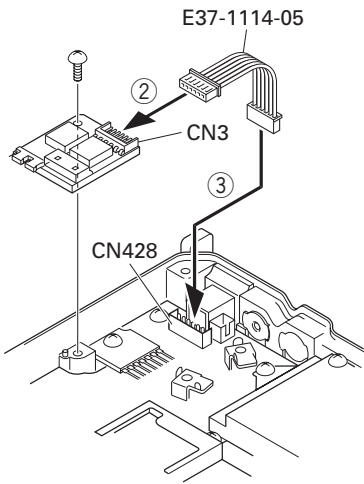

Fig. 2-2
3. Remove the 6-pin jumper connector inserted in the TX-RX unit (B/3) connector (CN428). (①)
4. Insert one side of the lead wire with connector (E37-1114-05) into the relay unit connector (CN3) (②) and the other side into the TX-RX unit (B/3) connector (CN428) (③).
5. Place the relay unit at the position shown in Figure 2-2 and secure it to the chassis with a screw.
6. Remove the cap on the rear of the chassis by pushing it from the inside with your finger. (④)
7. Pass the 6-pin connector of the cable (E37-1113-05) through the chassis hole (⑤) and insert the bush into the chassis hole.
8. Rotate the bush of the cable 90 degrees counterclockwise as viewed from the rear of the chassis. (⑥)
9. Insert the 6-pin connector of the cable into the connector (CN2) of the KAP-2 relay unit. (⑦)